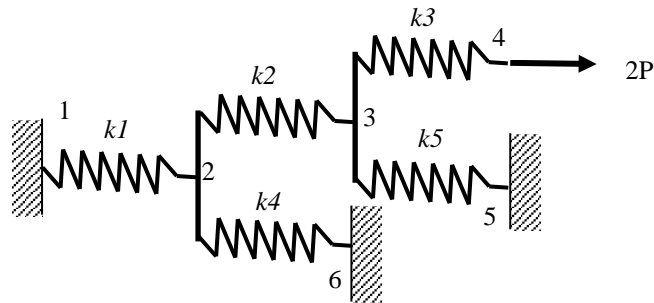

Figure 6
- (b). **Figure 6** shows an assemblage of a spring system which is subjected to a nodal force of $2P = 100$ kN at node 4. The spring is fixed at node 1, 5 and node 6. Using the value of $k_1 = 200$ kN/m, $k_2 = k_4 = 150$ kN/m and $k_3 = k_5 = 200$ kN/m,